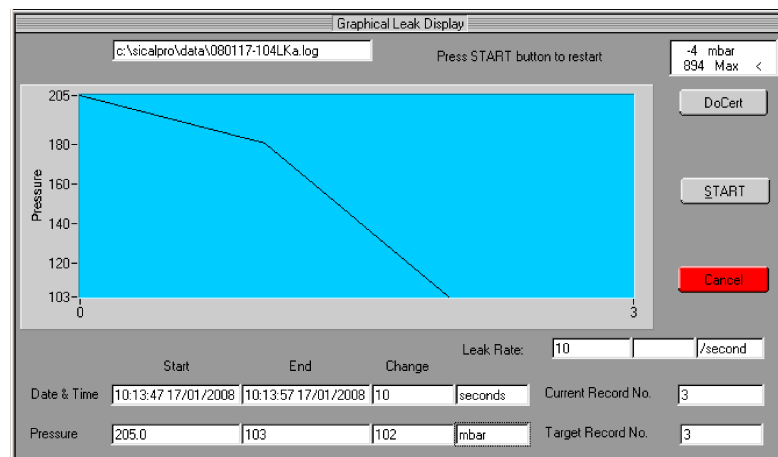

Figure 5-16: Example display - Leak Test
2. In Section 5.5.2, Figure 5-9: Set the *Certificate Type* to *Leak*; In Figure 5-10: Click on *Live Data*. > See Figure 5-16.
(Figure 5-16)